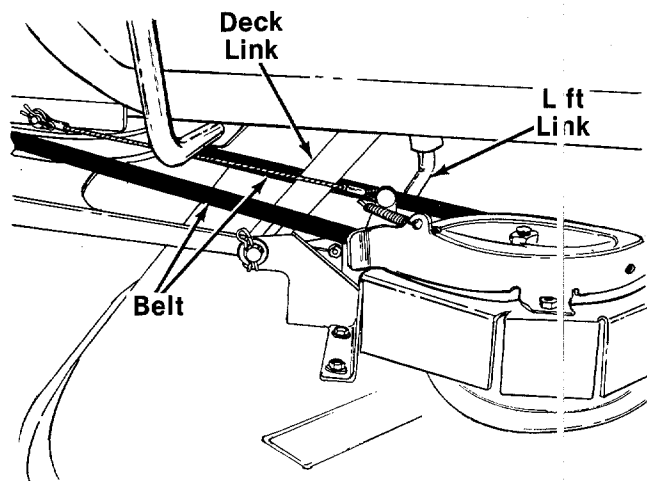
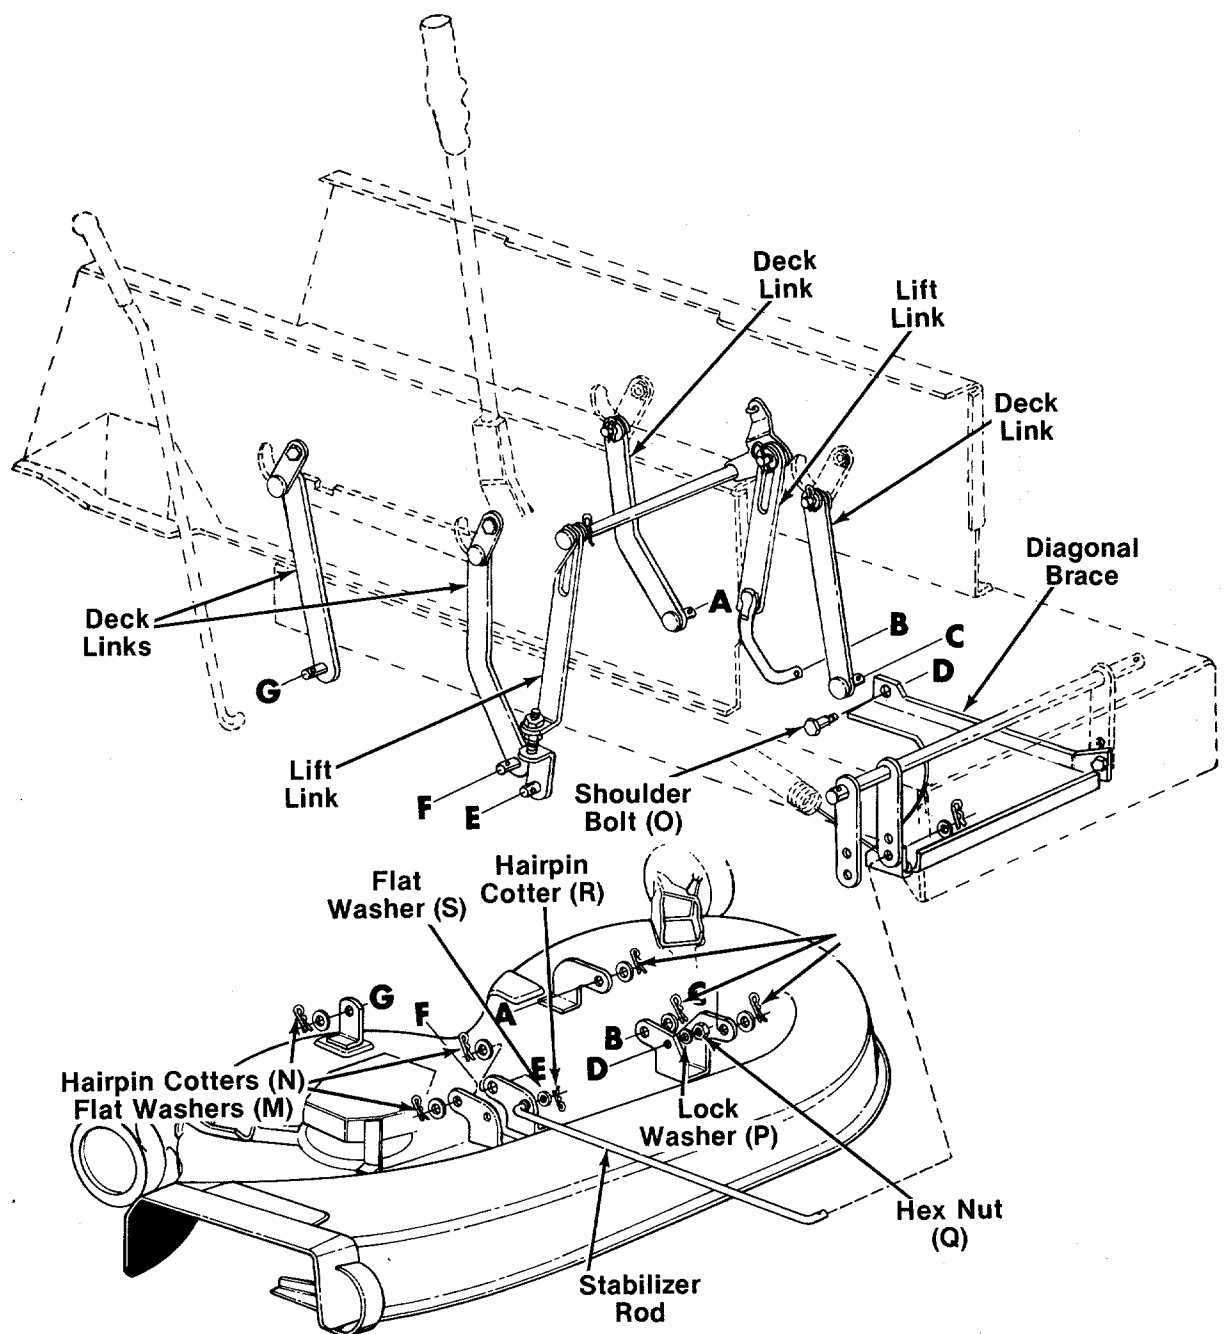

FIGURE 11.
FIGURE 12.
6. Attach the two lift links, and then the four deck links to the deck as shown in figure 12 using six flat washers (M) and hairpin cotters (N). Be certain to route one side of the belt between the left hand lift link and deck link, and the other side outside of the deck link, as shown in figure 11.
7. Place the deck engagement lever in the engaged (forward) position. Attach the stabilizer rod to the deck using flat washer (S) and hairpin cotter (R). See figure 12.
8. Move the deck engagement lever to the disengaged position. Attach the diagonal brace to the deck as shown using shoulder bolt (O), lock washer (P) and hex nut (Q). See figure 12.